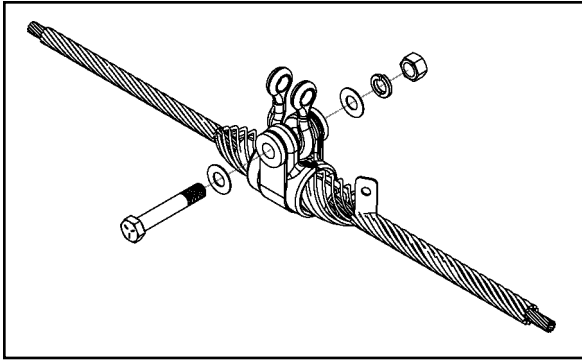

FIGURE 15
- 4.03 Slide the bolt through the galvanized steel flat washers, flanged isolation bushings, isolation washers, and hardware fitting. Then apply the lock washer and locking nut on the other end of the bolt. (Figure 15)